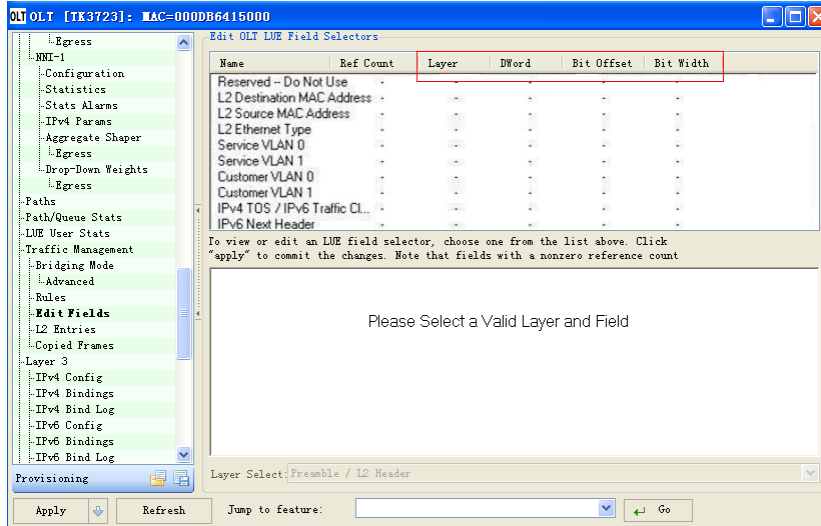

Figure 8-1 Window of Edit OLT Field Selectors
- 1) In the GUI, click OLT to display the OLT window; select Edit field on the left panel of the window and open the window of Edit OLT Field Selectors shown in the Figure 8-1;